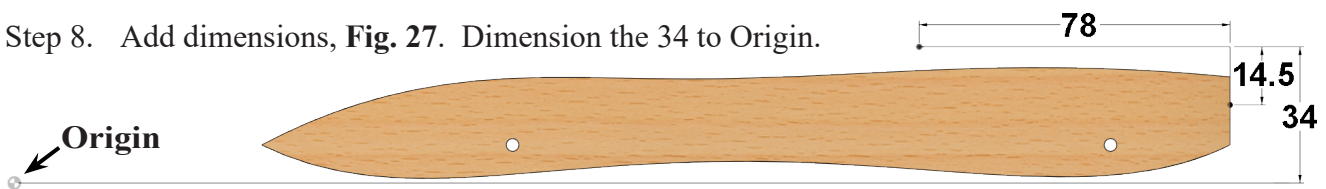

Fig. 27
Step 7. Click **Dimension**  (D) on the toolbar.
Step 8. Add dimensions, **Fig. 27**. Dimension the 34 to Origin.